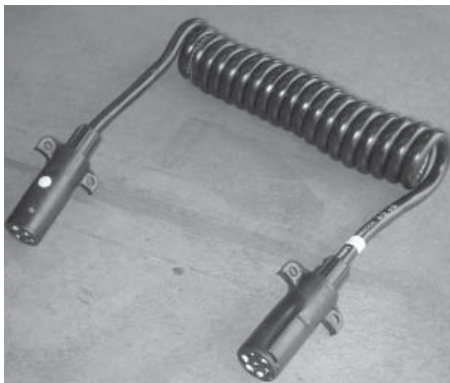

Figure 1-17 7 Pole Connector
- Connect seven-pole connector (see Figure 1-17 and 1-18) to electrical outlet on tractor. If tractor is not equipped with an outlet, contact tractor dealer for outlet installation.